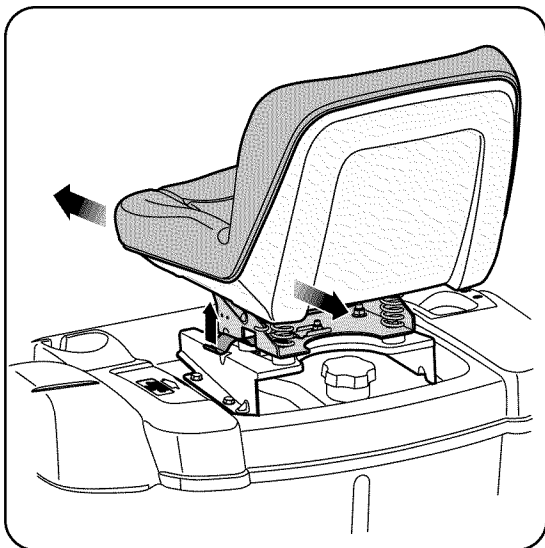

Figure 9
1. While sitting in the seat, grasp the seat adjustment lever on the left side of the seat and pull it upward to disengage from the seat index plate. See Figure 9.
2. Slide the seat to the desired position. See Figure 9.